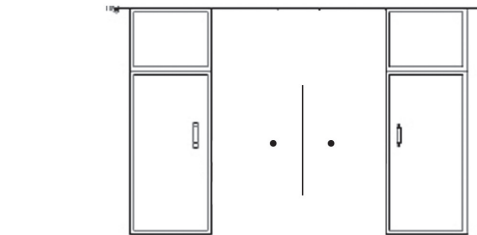

Figure 1
- 1 Find the center of the wall where you are installing the hood. Make sure there is sufficient bracing to hold the weight of the hood. Mark your center line and measure out from the center to find your two mounting points. Make sure your mounting points are level when you mark them. It is recommended to install the hood directly into wood supports. (Figure 1)
- 2 Mark the mounting points and install the two mounting screws provided leaving the heads out 1/4" to mount the hood. (Figure 1)